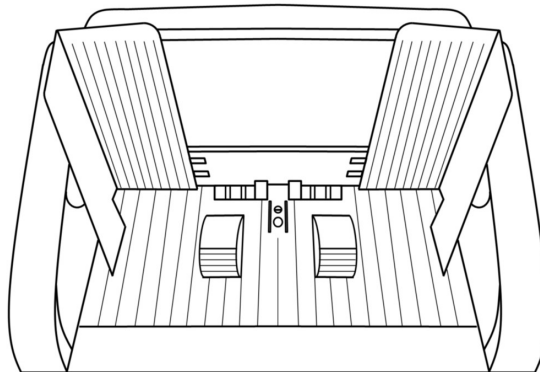

Figure 4
2) Remove the right note guider from the packaging box and fit it into the machine clip in the same way. When both note guiders are fully in place, as shown in Figure 4 below: